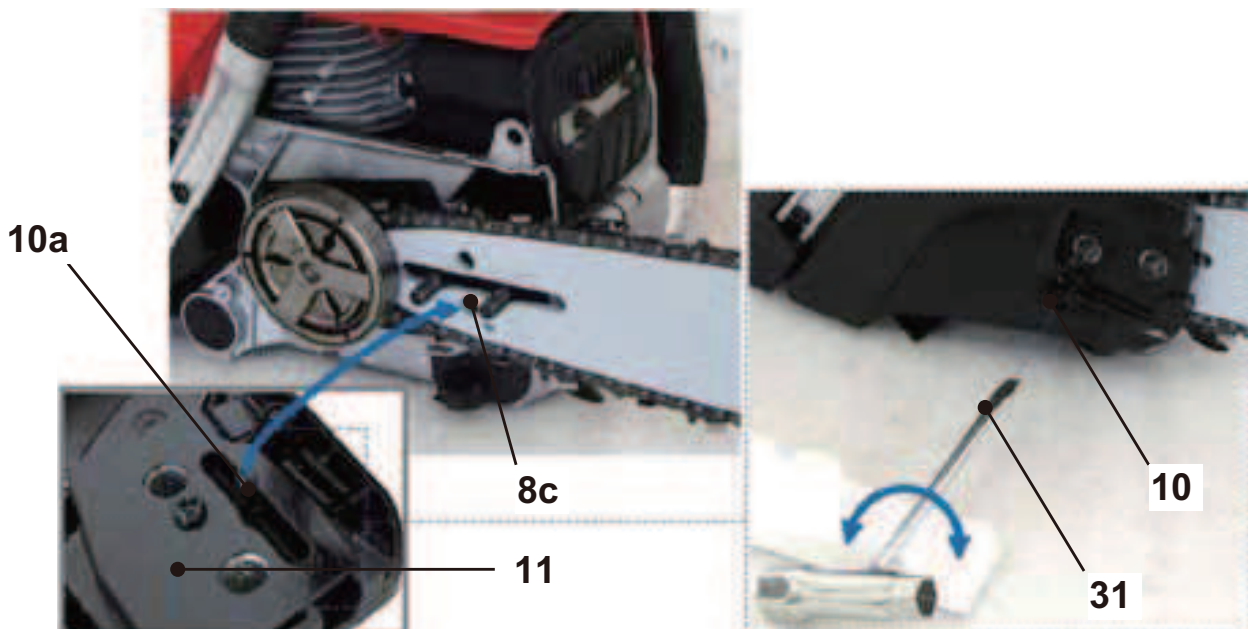

Fig. 6
9. Refit the cover (11). If necessary, turn the tension screw (10) clockwise or anticlockwise with the multi tool (31) to adjust the tension pin (10a) until it reaches a position where it can be inserted into the tension hole (8c) (Fig. 6).